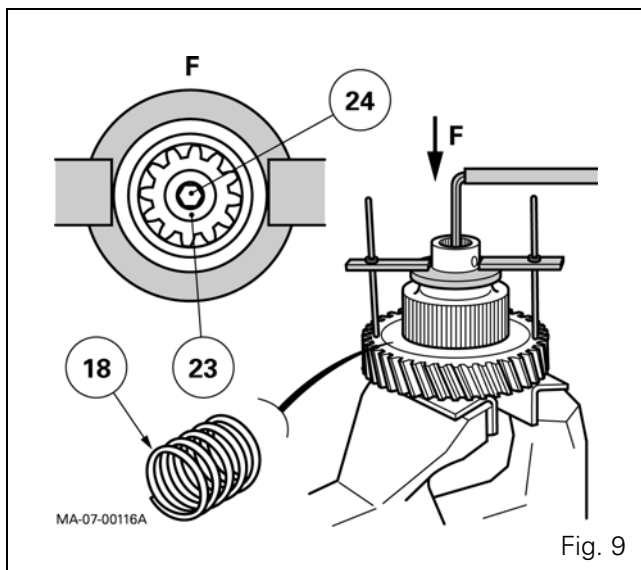

Fig. 9
30. Hold the spring (18) using a locally made tool (Fig. 9).
31. Take off the screw (24) and remove the washer (23) (Fig. 9). Gradually press down on the spring using the tool.
32. Remove the drive hub (21), the spring seat (19), the spring (18), the support (13) and the Belleville washer (12).
33. Take off the snap ring (20).
34. Extract bearing (22).
35. Take out the piston (10) by hitting the clutch unit on a wooden shim.
36. Take off the O'rings (11) (25) (26).
45. Using a suitable fixture and a press, insert the bearing (22) into the hub (21) and refit the snap ring (20).
46. Refit the Belleville washer (12), support (13), spring (18), spring seat (19) and drive hub (21).
47. Press down on the spring (18) with a tool (Fig. 9), install the washer (23), and tighten the screw (24) smeared with Loctite 270 to a torque of 24 - 28 Nm.
48. Place the spacer, the intermediate plates and discs on the hub (21) (depending on type, see operation 24).
49. Position the bell housing (15) into the two pins (30). Install the screws (16) each equipped with a washer (31), lightly smeared with Loctite 270 prior to tightening to 15 - 18 Nm.
51. Lubricate and install the O'rings (3) (6).